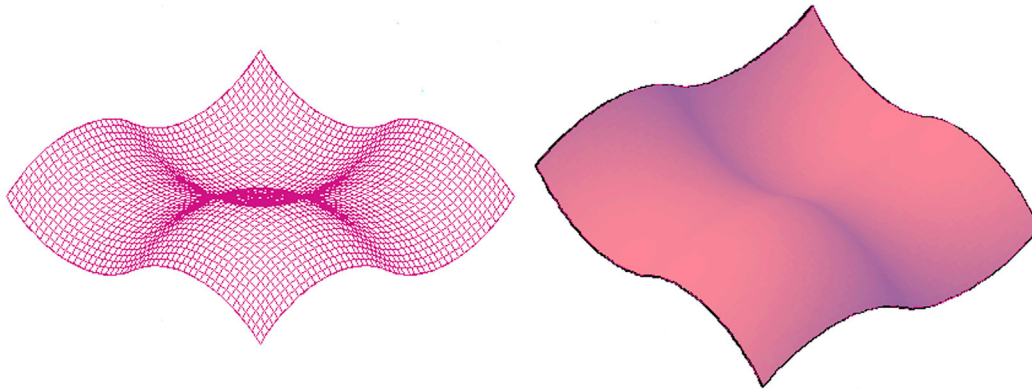

FIGURE 26.19 Final result for edgesurf.
Step 3. After the final edge is selected, you see the mesh image shown on the left in Fig. 26.19. On the right, it is shaded and slightly rotated for a better view.